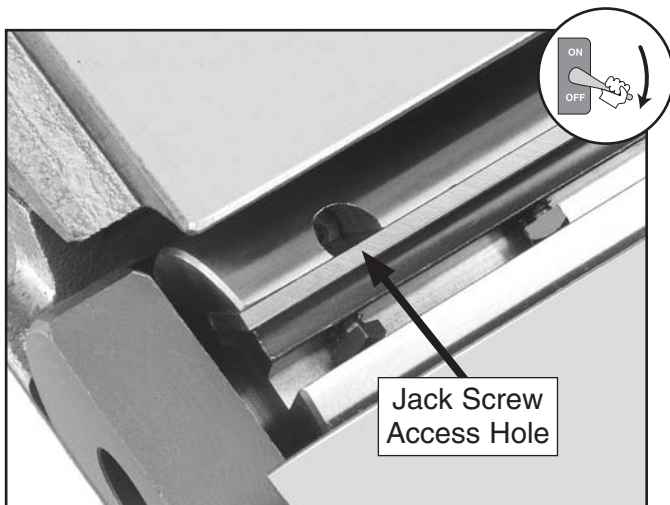

Figure 62. Jack screw access hole.
11. Insert the 3mm hex wrench through the access holes in the cutterhead, then rotate the jack screws to raise or lower the knife (see **Figure 62**). When the knife is set correctly, it will just touch the bottom of the straightedge without lifting it.